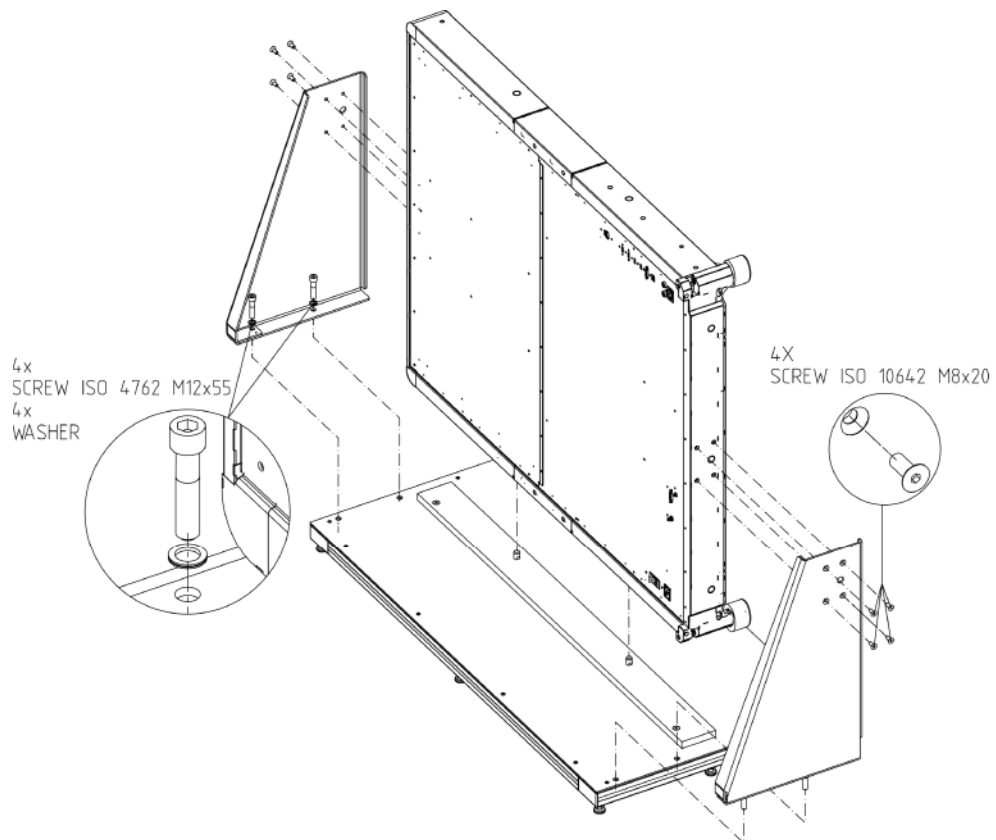

Figure 4-13: R&S QAR installation, including support mounting
1. Screw the two supports to the R&S QAR with four socket head screws (size 5) on each side of the R&S QAR (see Figure 4-13).
The position is defined by the two pins on the platform as shown in Figure 4-13. Those two pins fit into the two mounting holes on the frame of the R&S QAR.
Note: Insert a washer between screw and support as shown in Figure 4-13.